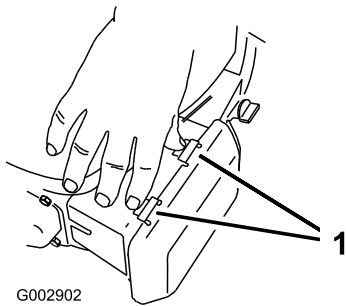

Figure 42
1. Press down on the latch tabs on top of the air-filter cover (Figure 42).